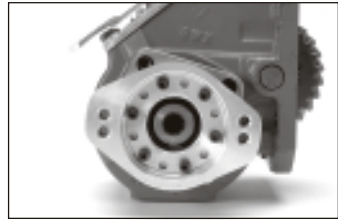

Fig. 6
- Next install the pump flange as shown in Fig. 6. With the P.T.O. on the workbench, shifter cover facing towards you and the belly of the P.T.O. down, the flange shown should be towards your right. Orient the pump flange to the 3:30 – 9:30 position. Install the 6 socket head capscrews (378446-4) and torque to 8-12 lbs. ft. [11-16 N.m].